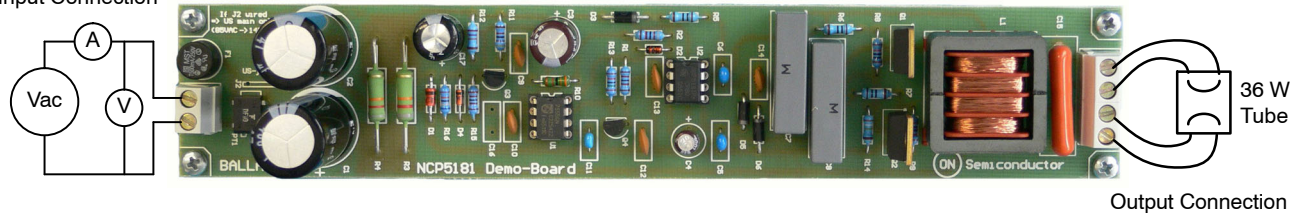

Figure 8. Ballast Connection
5. If you get the correct output and input voltage, you can then connect a 36 W fluorescent tube on the output (see Figure 8).